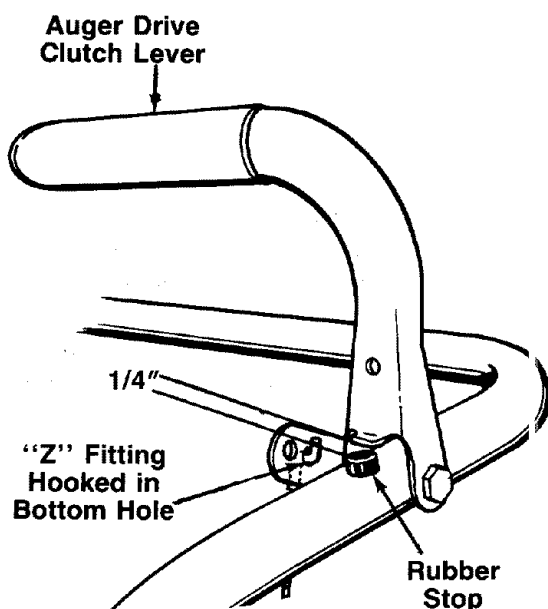
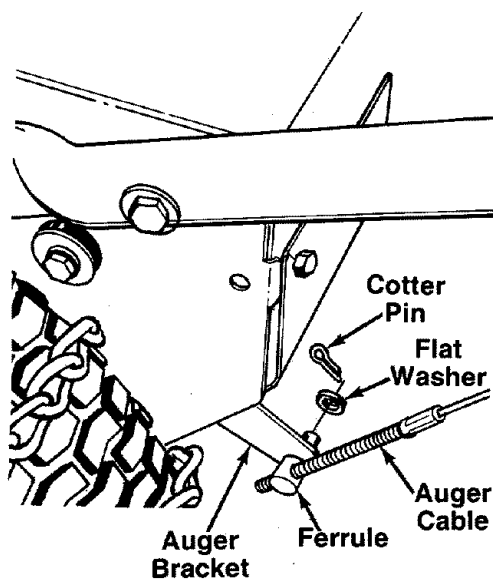

FIGURE 14.
FIGURE 15.
1. Hook the "Z" fitting on the end of the auger cable into the bottom hole in the auger drive clutch lever (left hand side of handle). Hook the fitting from the inside to the outside as shown in figure 14.
2. Raise the clutch lever so it is approximately  $\frac{1}{4}$ " away from the rubber stop on the handle, as shown in figure 14. With the clutch lever in this position, thread the ferrule onto the end of the auger cable until it lines up with the hole in the auger bracket. See figure 15.
3. Insert the ferrule into the auger bracket as shown in figure 15. Secure with  $\frac{5}{16}$ " flat washer and cotter pin, bending the ends of the cotter pin in opposite directions.